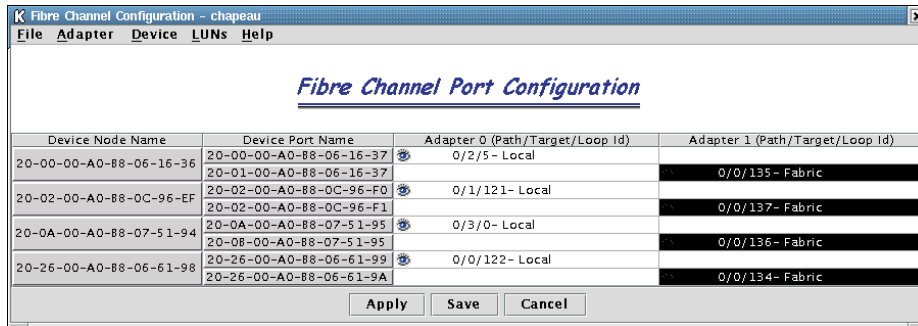

Figure 30. Fibre Channel Port Configuration window
5. Select CONFIGURE. You will then be presented with the Fibre Channel Port Configuration dialog box (see Figure 30).